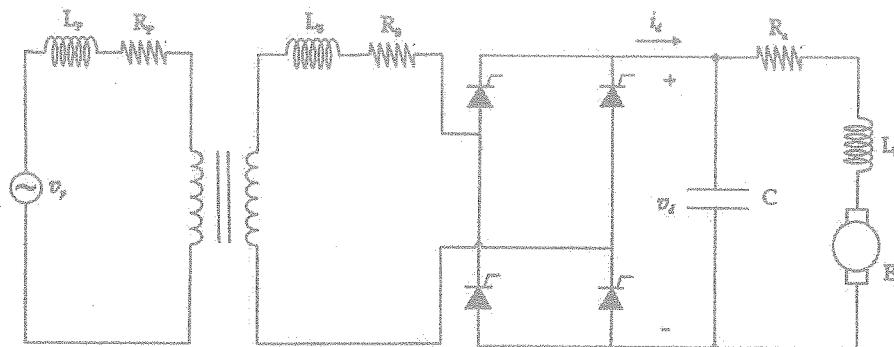

Figure Q1(c) PE system
- c) The armature of a 4.0 hP separately excited DC motor is supplied by a power electronic (PE) system as illustrated in Figure Q1(c). The DC side and the AC side of the thyristor converter are connected to the DC motor and a 4.2 kVA, 50 Hz, single phase distribution transformer, respectively. The turns ratio of the transformer is 0.5 and it is supplying the rated load. It is found that the THD of the PE system is 48.43%. The parameters of the system components are listed in Table Q1(c)-1 and the IEEE harmonic guide lines are given in Table Q1(c)-2.